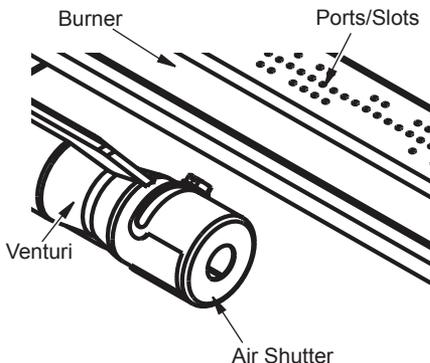

Figure 39 - Injector Holder On Outlet Burner Tube
2. Inspect burner, air shutter and orifice for dust and dirt (see Figures 39 and 40).